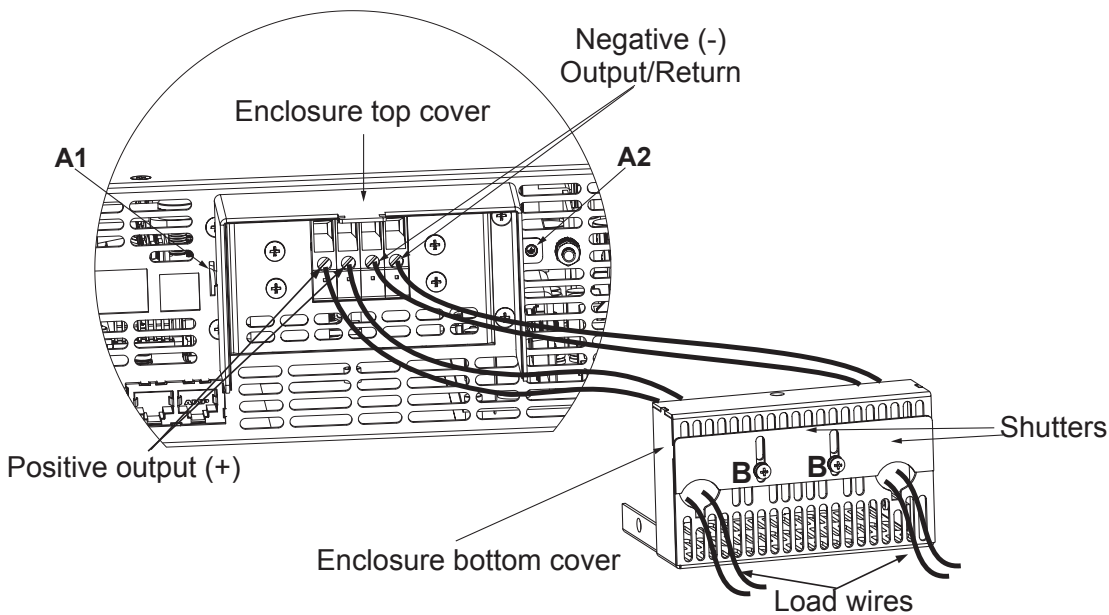

Fig.3-9: Load wires connection to the output connector
4. Insert stripped wires into enclosure bottom cover opening and then to the terminals, tighten the terminals screws securely (see fig.3-9)
5. Assemble the enclosure top cover to the chassis as shown in Fig.3-9, using clamp "A1" and screw "A2", tighten screw "A2" (tightening torque:4.8 - 5.3 Lb-inch).